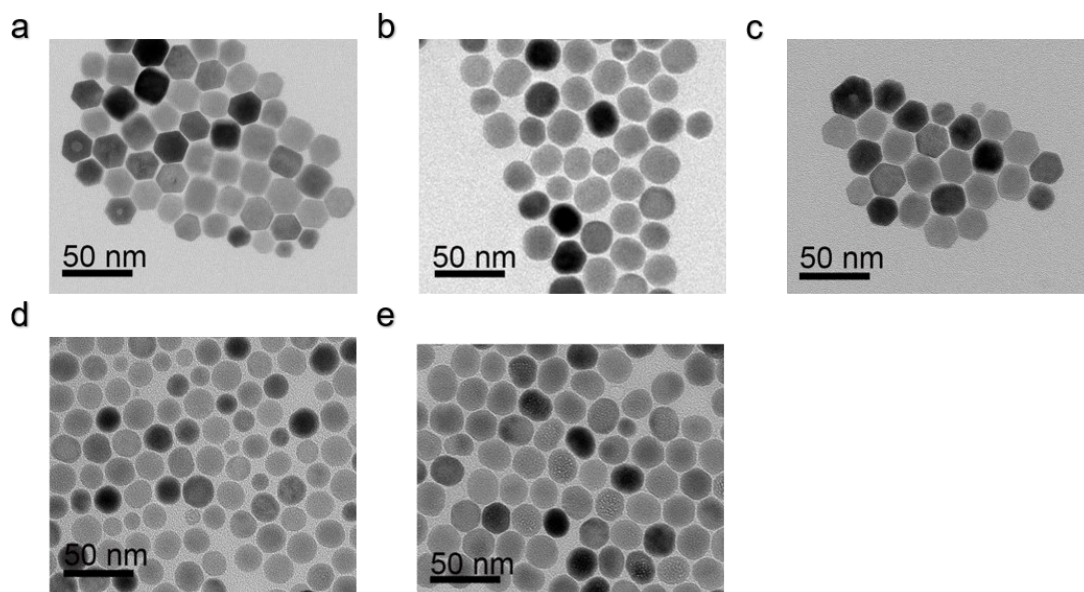

Figure S3 TEM images of NaGdF4: 15%Yb,15%Er, x%Ho NPs: (a) 5% Ho, (b) 10% Ho, (c) 15% Ho, (d) 20% Ho, (e) 25% Ho.
**Characteristic of the Quantum Yield.** The quantum yield of samples was measured in an Edinburgh FLS 980 fluorescence spectroscope, which was used to monitor the 980 nm excitation ( $0.5 \text{ W/cm}^2$ ) and emission (visible light (300-700 nm) and NIR light (1100-1700 nm), respectively) photons. The emission and reflected excitation photons were scattered and collected by an integrating sphere (Figure S3) and then detected by a photomultiplier (PMT). The samples were dispersed in cyclohexane and pure cyclohexane was used as the reference. The absolute quantum yield (QY) is determined by  $QY = P_{\text{sample}} / (S_{\text{ref}} - S_{\text{sample}})$ , where  $P_{\text{sample}}$  is the emission intensity,  $S_{\text{ref}}$  and  $S_{\text{sample}}$  are the intensities of the scattered light in the presence of the reference and sample, respectively.